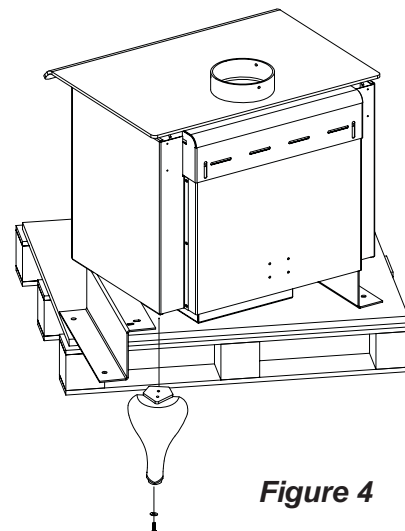

Figure 4
- 6) Use the bolts provided to install the rear leg. (7/16" wrench or socket.) . *Figure 4*